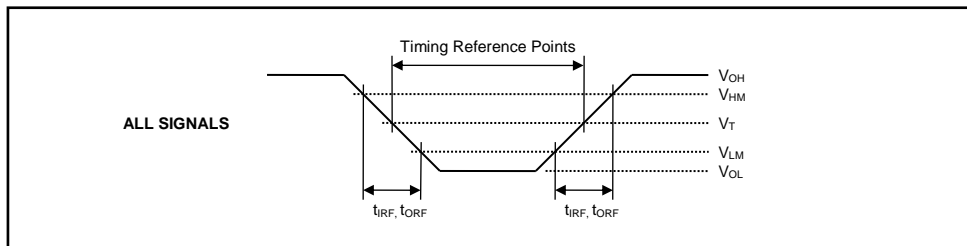
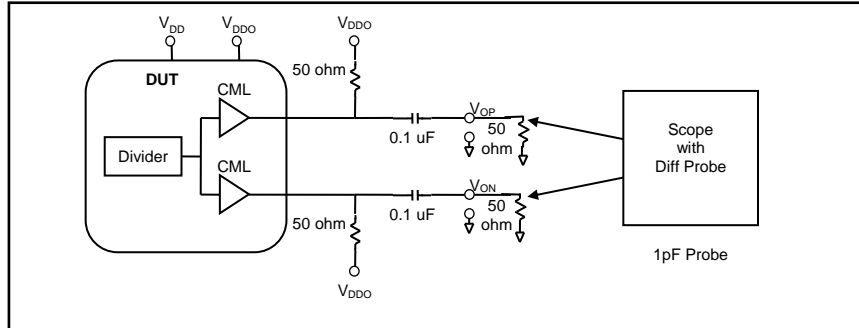
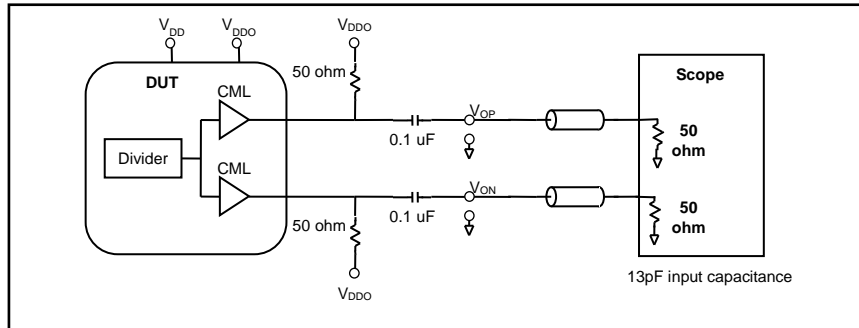
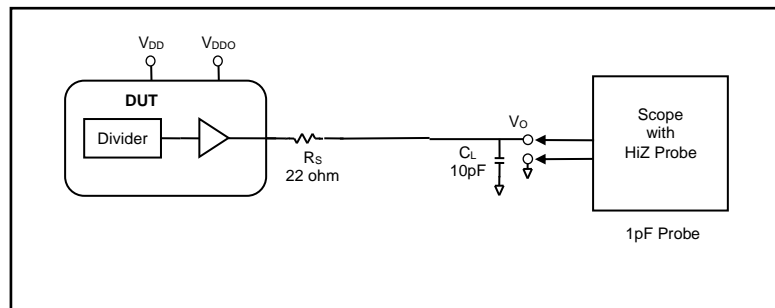

Figure 40. Timing Parameter Measurement Voltage Levels
Figure 44. HPOUT_DIFF Output t_r and t_f Measurement Setup
Figure 45. HPOUT_DIFF Output Duty Cycle Measurement Setup
Figure 46. HPOUT and GPOUT Output t_r , t_f & Duty Cycle Measurement Setup
* For the threshold voltage drawing see Figure 40
* See Figure 40, Figure 44 and Figure 45
* See Figure 40 and Figure 46